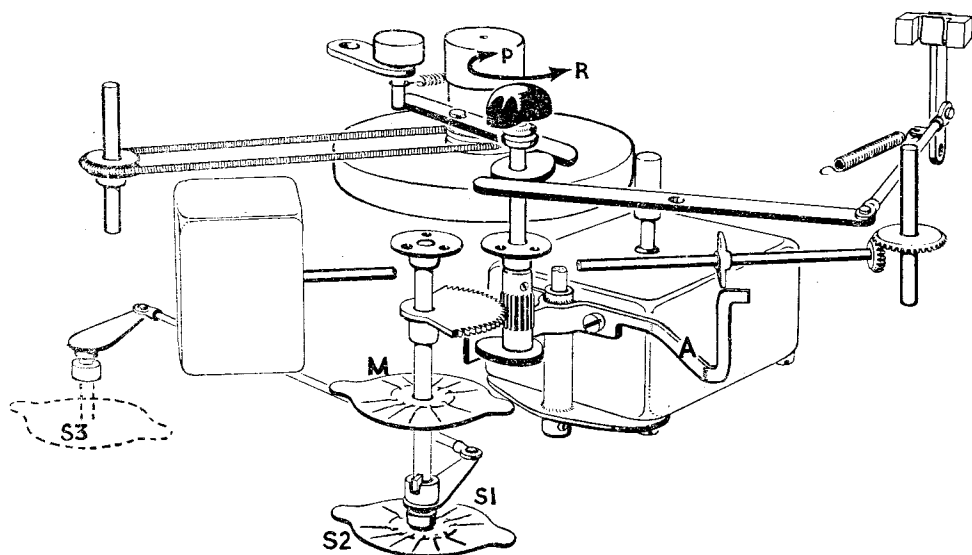

Fig. 13. Deck mechanism and controls in "rewind" position. "M" is the motor-selector switch
FIG. 13 shows the layout of the control mechanism. The main control shaft passes down through a rubber bush in the deck panel and through a bearing in the capstan platform. It is fitted with two cams both having about 300 deg. movement, and the shaft possesses a pinion geared 5:1 to a toothed sector. The latter is pinned to the switch shaft which operates a single Yaxley wafer supported on two pillars
The complete mechanism is shown in Fig. 13 together with details of the cam followers and levers. Two levers pick up movement from the upper cam; one shifts the pressure roller away from the capstan during rewind only, the other permits the permanent magnet to contact the tape during record only. The lower cam contacts an arm bolted to the capstan motor and shifts it away from the capstan during rewind
probably due to badly meshed bevel gears). To obviate this effect the rewind drive shaft was locked during record and playback only, by arm (A) (Fig. 13) which, moving with the capstan motor, intercepts a cross member on the rewind drive-shaft.